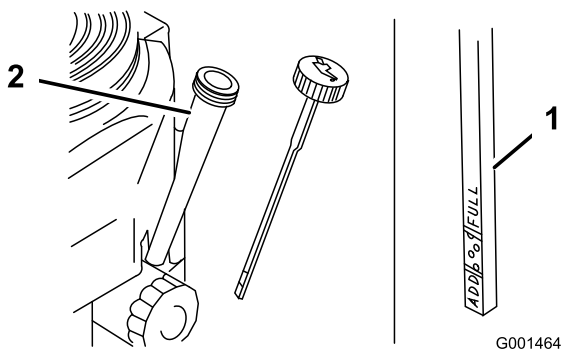

Figure 34
4. Clean around the oil dipstick (Figure 34) so that dirt cannot fall into the filler hole and damage the engine.
5. Unscrew the oil dipstick and wipe the end clean (Figure 34).
6. Slide the oil dipstick fully into the filler tube, but do not thread onto tube (Figure 34).
8. Slowly pour approximately 80% of the specified oil into the filler tube (Figure 34).